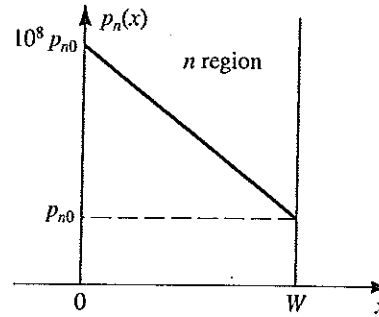

Figure P3.10
**3.10** Holes are being steadily injected into a region of n-type silicon (connected to other devices, the details of which are not important for this question). In the steady state, the excess-hole concentration profile shown in Fig. P3.10 is established in the n-type silicon region. Here "excess" means over and above the thermal-equilibrium concentration (in the absence of hole injection), denoted  $p_{n0}$ . If  $N_D = 10^{16}/\text{cm}^3$ ,  $n_i = 1.5 \times 10^{10}/\text{cm}^3$ ,  $D_n = 12 \text{ cm}^2/\text{s}$ , and  $W = 0.1 \mu\text{m}$ , find the density of the current that will flow in the  $x$  direction.